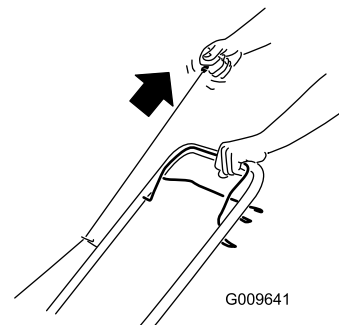

Figure 12
2. Pull the recoil-start handle (Figure 12).
Note: When you pull the recoil-start handle, pull it lightly until you feel resistance, then pull it sharply (Figure 12). Allow the rope to return to the handle slowly.